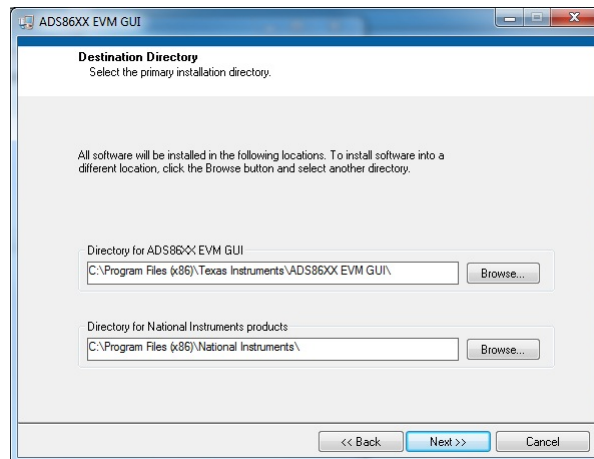
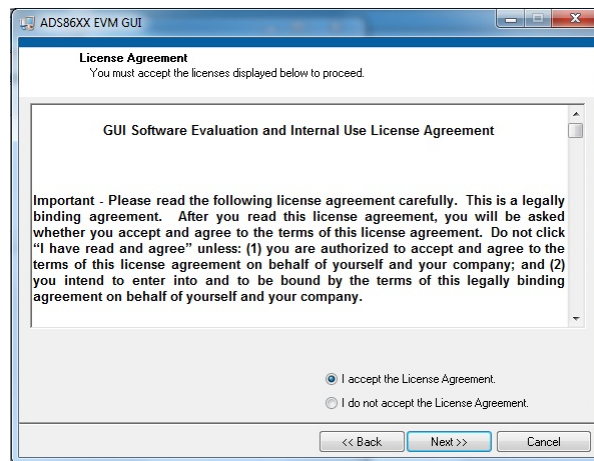

Figure 9. Destination Directory Screen
Figure 10. License Agreement Screen
5. Select the default directory under: `... \Program Files(x86)\Texas Instruments\ADS86XX EVM GUI\`; see Figure 9 and Figure 10. One or more software license agreements appear.